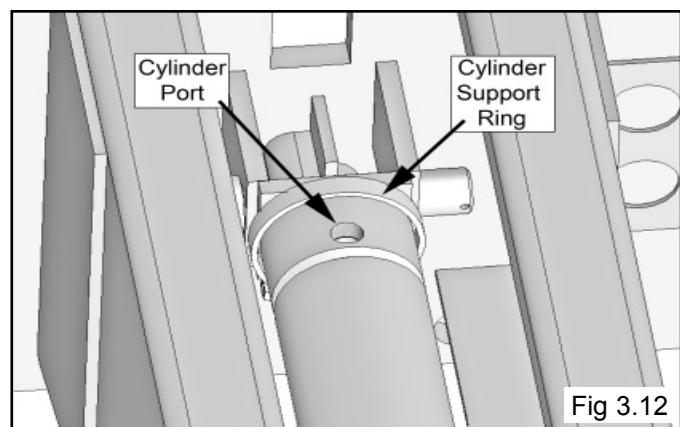

Fig 3.12
14. Insert the base end of the Cylinder into the Cylinder Support Ring. (See Fig 3.12)